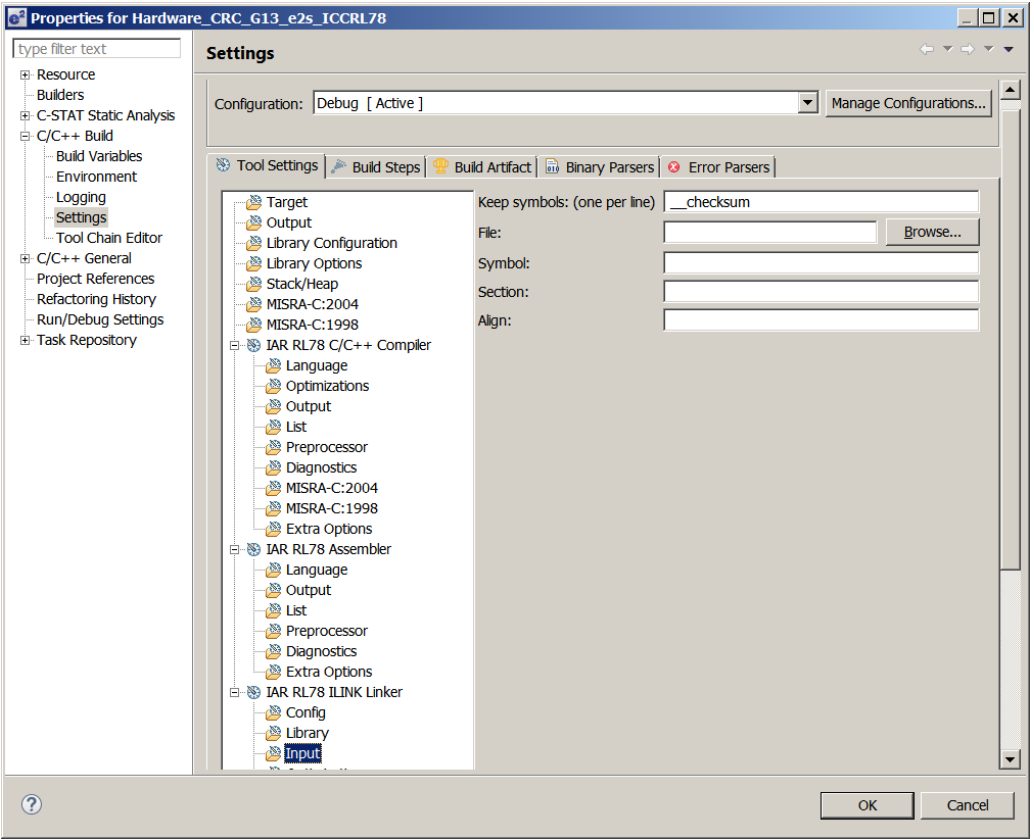

Figure 7: Linker Input Options in e2studio/IAR settings
- Set the CRC/Checksum placeholder location, by entering “_checksum” in e2studio Project >> Properties >> Settings >> IAR RL78 ILINK Linker >> Input, “Keep symbols” box (See Figure 7.)